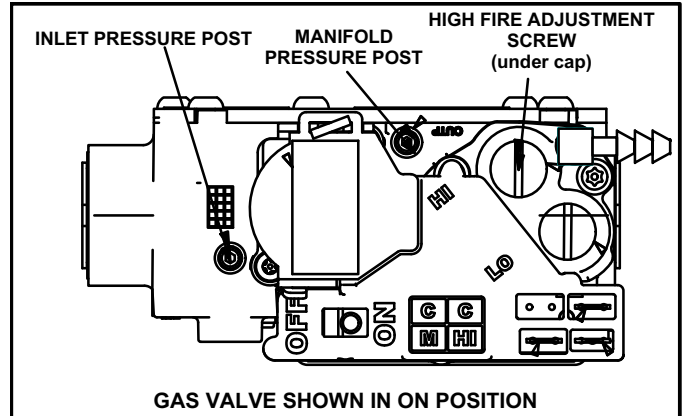

FIGURE 59
#### Gas Valve Operation (Figure 59)
- 6 - Move gas valve switch to **OFF**. See figure 59.
- 8 - Move gas valve switch to **ON**. See figure 59.
An inlet post located on the gas valve provides access to the supply pressure. See figure 59. Back out the 3/32 hex screw one turn, connect a piece of 5/16 tubing and connect to a manometer to measure supply pressure. See table 16 for supply line pressure.
A manifold pressure post located on the gas valve provides access to the manifold pressure. See figure 59. Back out the 3/32 hex screw one turn, connect a piece of 5/16 tubing and connect to a manometer to measure manifold pressure.
- 5 - If necessary, make adjustments. Figure 59 shows location of high fire and low fire adjustment screws.